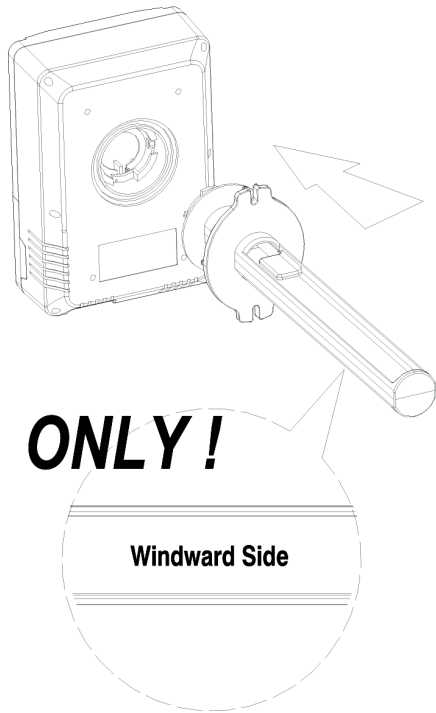

Fig. 4.
3. As shown in Fig. 4, install the side of the pitot tube marked with the Windward Side facing down, and align it with the rear mounting hole of the main unit.